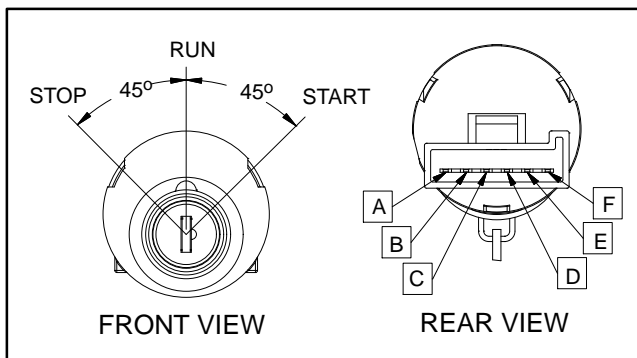

Figure 34
The ignition (key) switch is located on the control panel and has three (3) positions: STOP, RUN and START (Fig. 34). The Toro Electronic Controller (TEC) monitors the operation of the ignition switch.
5. The ignition switch terminals are identified in Figure 34 and the circuitry of the switch is shown in the chart in Figure 35. With the use of a multimeter (ohms setting), the switch functions can be tested to determine whether continuity exists between the various terminals for each switch position. Verify continuity between switch terminals.